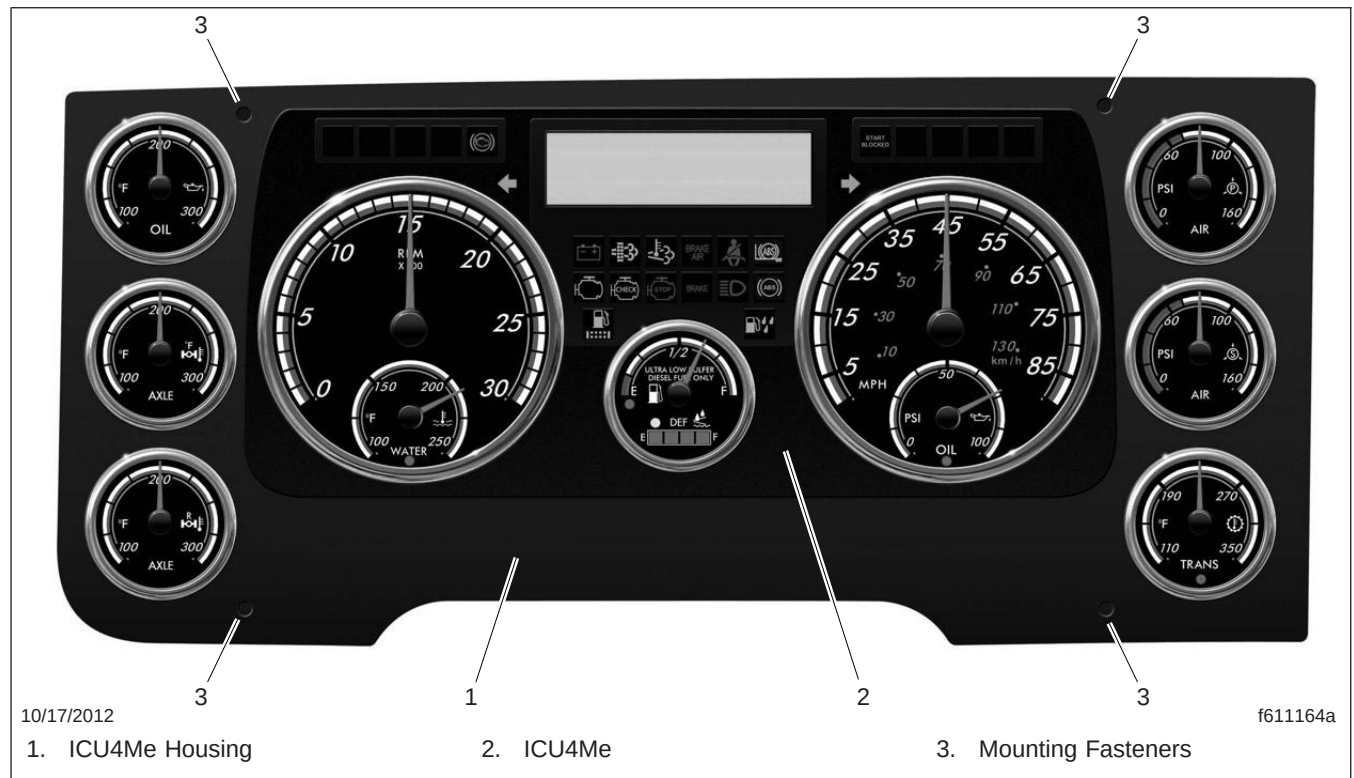

Fig. 1, ICU4Me Assembly
1. Remove the 4 fasteners that secure the ICU housing to the dash. See Fig. 1. Pull the housing assembly out of the dash.